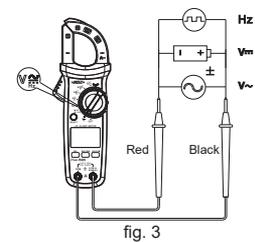

fig. 3
2. AC/DC Voltage and Voltage Frequency Measurement (fig. 3)